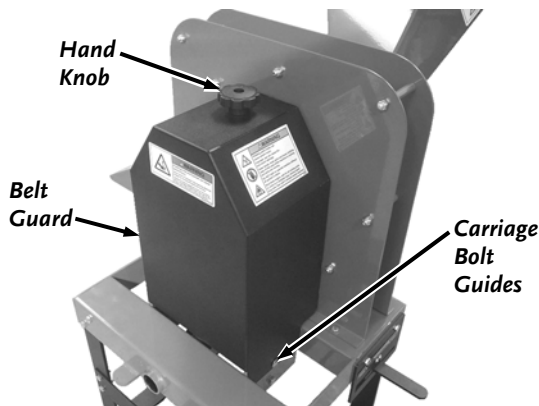

Figure 45
1. Remove the Hand Knob from the top of the Belt Guard and remove the Guard (**Figure 45**).
NOTE: There is a slot in each of the bottom Tabs of the Belt Guard. These slots must slide over the Carriage Bolt Guides that are mounted to the inner Frame Supports of the Chipper (**Figure 45**).